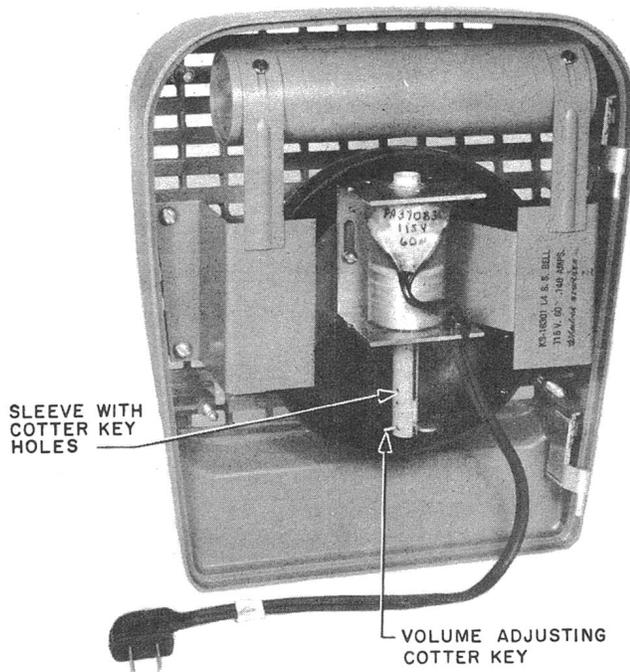

Fig. 8 — KS-16301, List 4 Bell, Single Stroke
4.02 The volume of the list 4 (single-stroke bell) may be adjusted by means of a cotter key, which is the backstop for the plunger (see Fig. 8). The signal is shipped with the key inserted through the lowest of the three holes in the sleeve that contains the plunger, thereby providing maximum volume. To decrease volume, move cotter key to intermediate or top hole in the sleeve. This adjustment was not provided on some bells of initial manufacture.